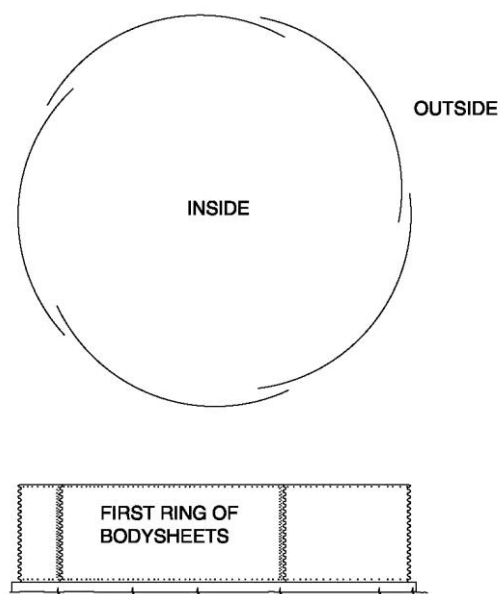

Figure 1
- 1- Assemble the top ring of body-sheets on the finished foundation bolting the vertical joint line free of stiffener with M10x20 bolts, and doing it in the clockwise direction; in other words, placing the one on the left over the one on the right, as it is shown in the drawing. (See figure 1)